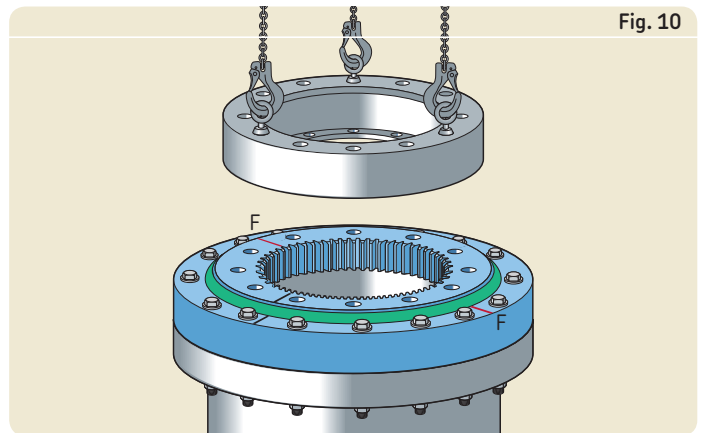

Fig. 10
- 10 Position the second support structure with its support surface on the free bearing ring. The **red marking F** on this ring must be at 180° from the **red marking F** of the mounted ring (→ **fig. 10**).